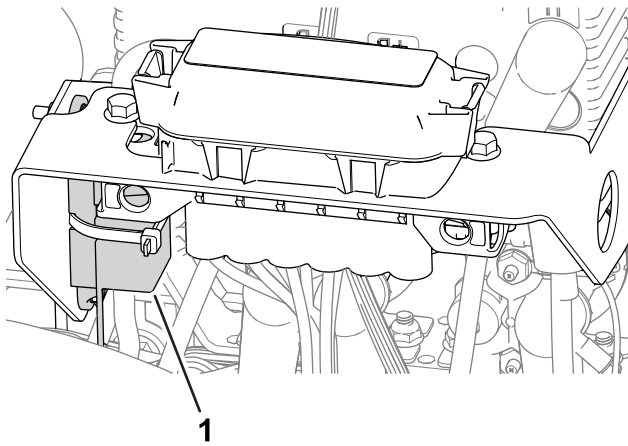

Figure 46
- The fuse for the left wheel motor (60 A) is located under the cover on the left side of the machine, near the reel-drive-circuit fuses (Figure 46).